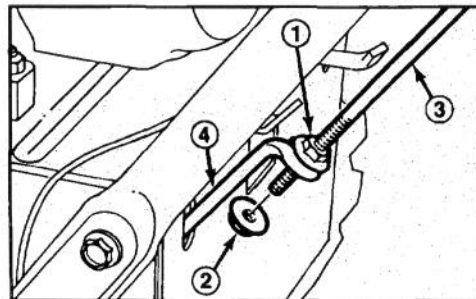
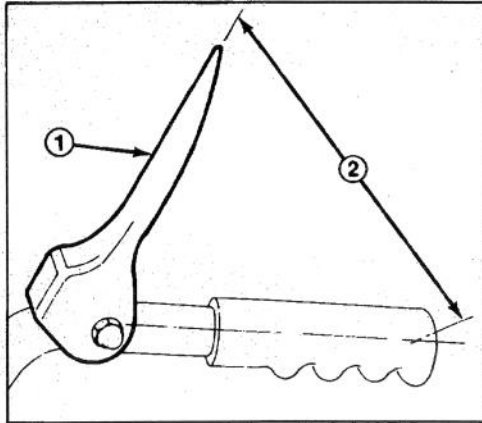

Figure 25
Figure 26
1. Loosen locknuts securing upper traction control rod to lower traction control rod (Fig. 25).
2. Adjust upper locknut (Fig. 25) until there is approximately 6 inches (15 cm) between the center of the handle and the tip of the traction control lever (Fig. 26).